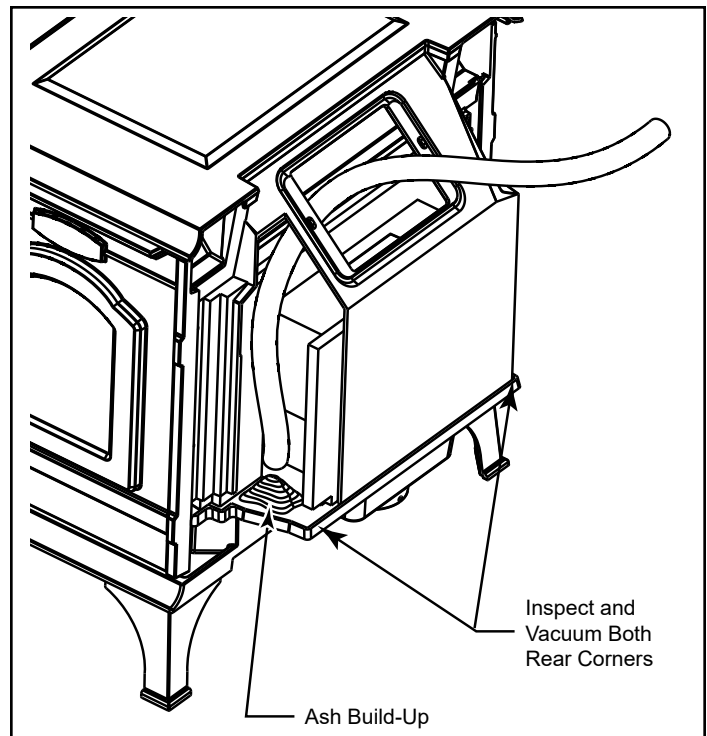

Figure 35 - Inspect and clean out ash accumulation on either side of the non-catalytic combustion system.
- Inspect for and remove ash build-up behind the combustion package. This should be done in conjunction with annual cleaning of the chimney connector since this inspection is most conveniently done through the flue collar opening. Inspect the passages to either side of the combustion package (a mirror will be helpful) and vacuum away ash using a flexible vacuum hose inserted into each passage. Care should be taken not to damage the white fibrous material in this rear chamber. (Figure 35)